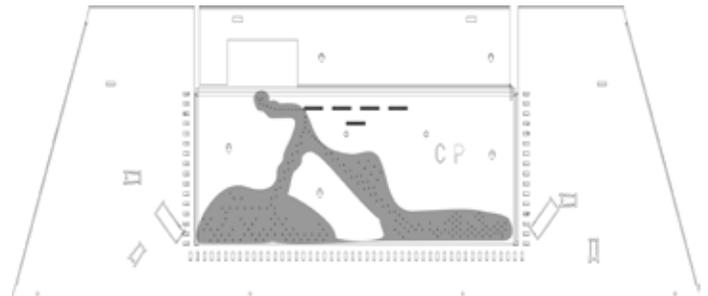

Figure 3
After placing logs into position, place dime-sized pieces of glowing embers over the burner surface. A single layer is sufficient; do not over-apply. See **Figure 3**.
STEP 10. The log assembly is complete. Place glowing embers over the round ports on the burner as shown in **Figure 3**. Place ember sticks and coals on burner cover. Do not place ember sticks or coals over any burner ports. See **Figure 4**. Replace glass door and barrier screen as mentioned in fireplace manual.